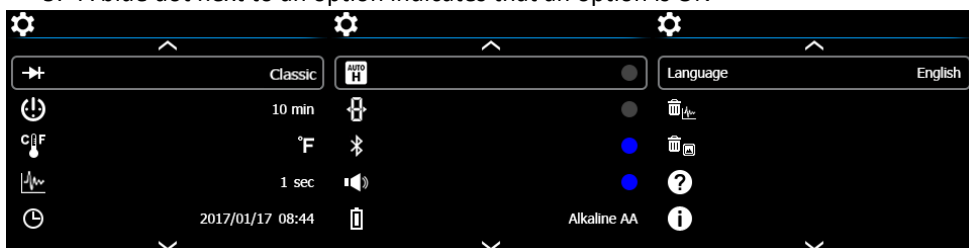

Fig. 7-1 General Settings Menu
2. Scroll to the Settings  icon and press **OK** to open the Settings menu (see Fig. 7-1)